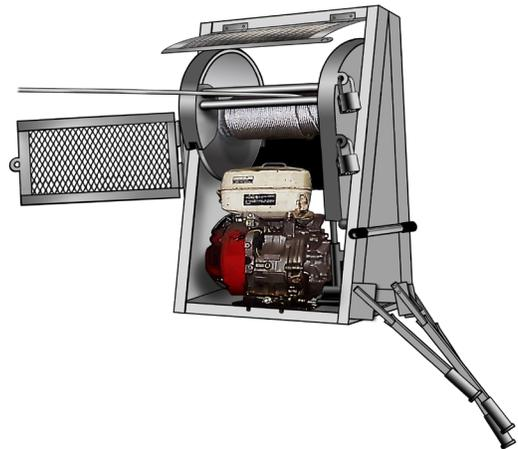

Figure 3: Cover with latch on the same side as the operator and hinge on opposite side
- Covers must have a means of secure attachment (i.e., a latch) and allow access to the machine when it's not in operation. For example, Figure 3 shows a metal mesh guard cover that is hinged on the opposite side from the operator, which allows them to access the fuel tank and do maintenance on the spool and cables when the equipment is not in operation. The latch is on the same side as the operator for easy reach. Note the two metal rollers near the top, which makes winding the cable easier.